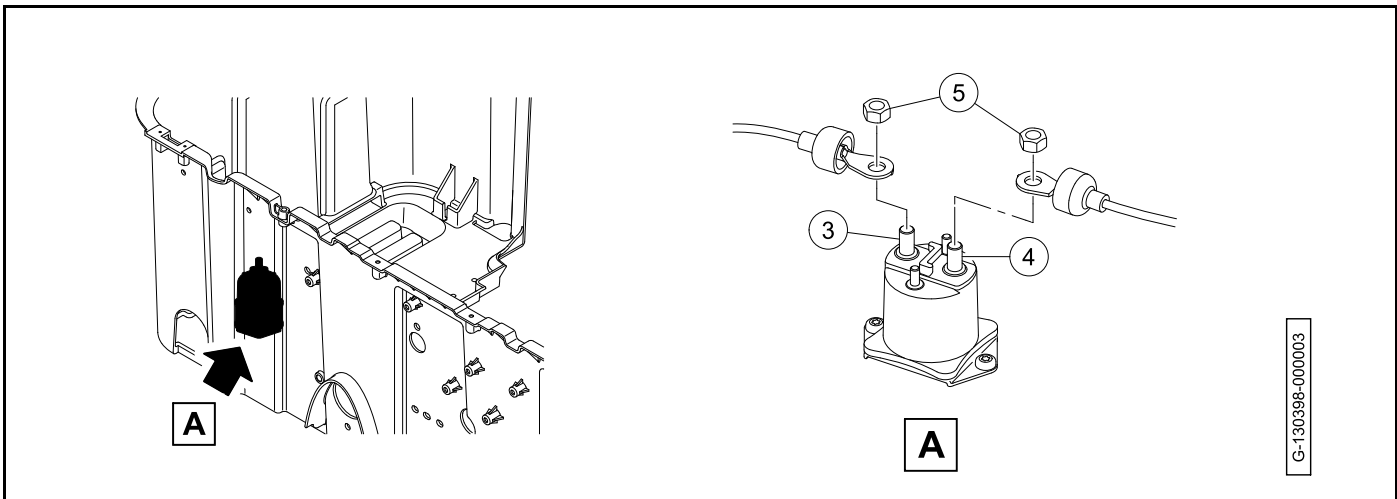

Figure 19-20 Solenoid Large Posts
2. Install the two screws (2). Tighten the screws to 31 lb·in (3.5 N·m).
3. Connect the white wire to the large post (3) on the solenoid (**Figure 19-20, Page 19-20**).